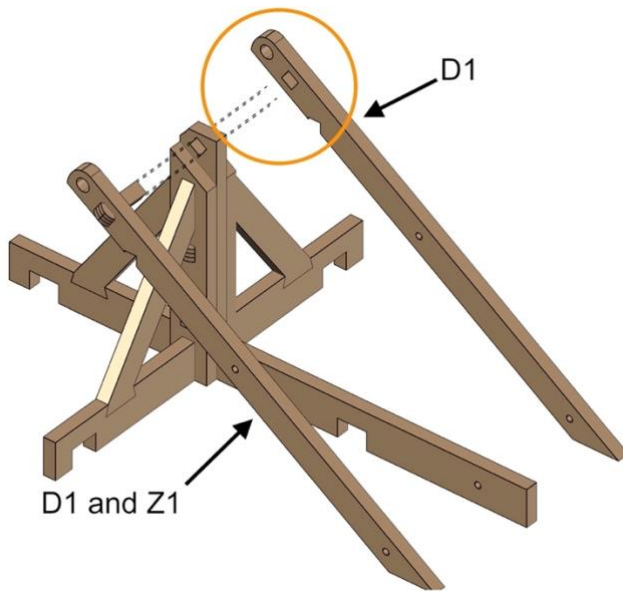

Fig. 47
- Align parts exactly as shown in *Fig. 47*.